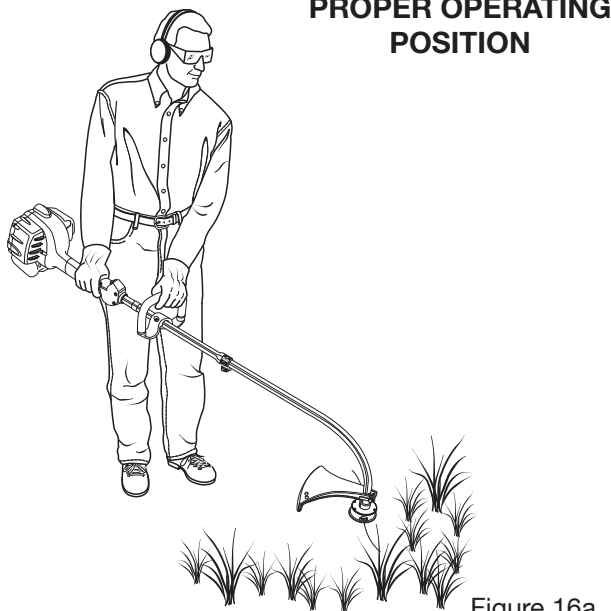

Figure 16a
See Figure 16a.
1. Avoid hot surfaces by always keeping the tool away from your body. (Proper operating position is shown in Figures 16a, 16b and 17.)